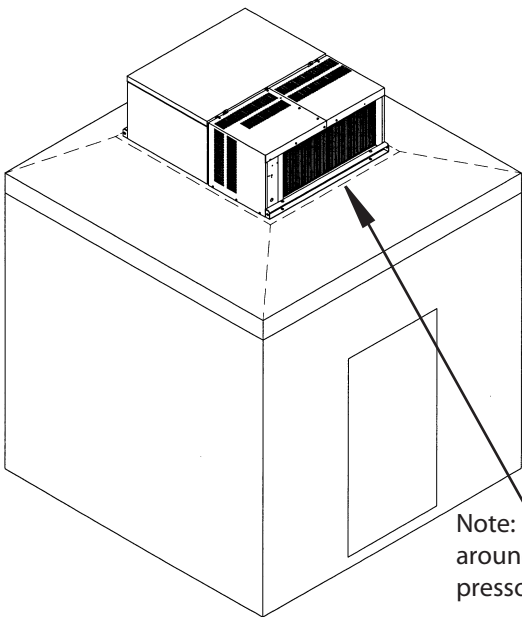

Figure 3. PTT unit placed on roof of walk-in cooler. (see rigging instructions).
5. Place PRO³ system onto curbing and center over opening in roof box. (See Figure 3, page 7)